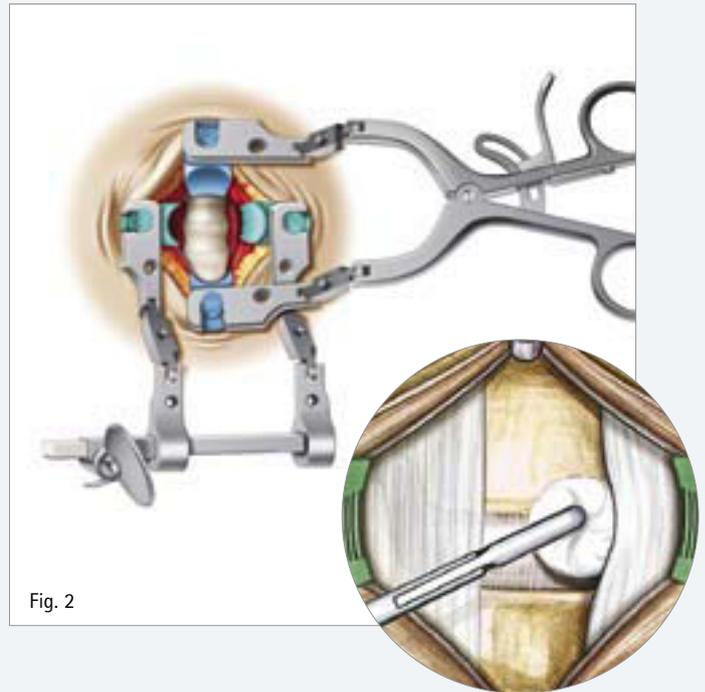

Fig. 2
### Exposure of the Intervertebral Space (Fig. 2)
- After the skin incision and preparation, the CASPAR Cervical Retractor is applied (Fig. 2). The blades are available in PEEK and Titanium. A counter retractor can be used. The subcutaneous tissue is separated from the platysma cranially, caudally and medially, and the platysma is also separated following the direction of its fibers. The margins of the platysma can be held apart with the retractor or with two surgical forceps.